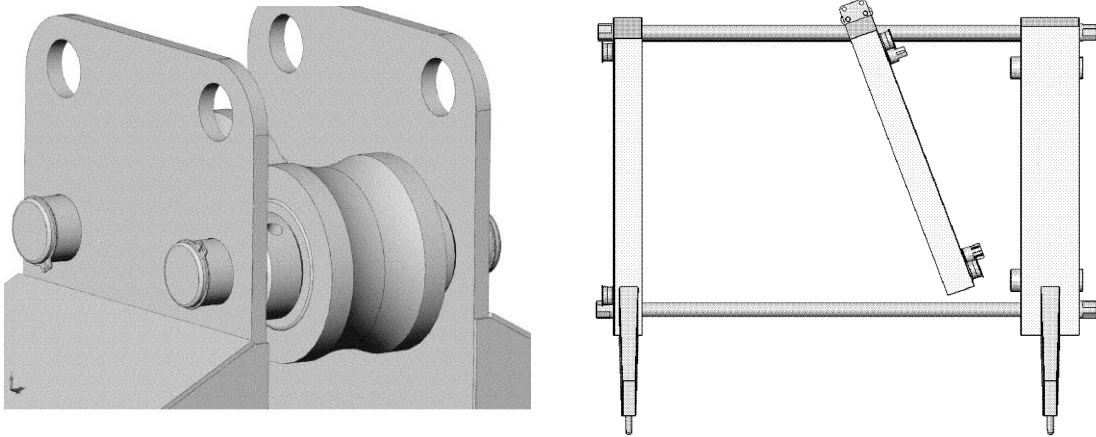

Figure 6-7
11. To install the follower it is necessary to remove the rollers. These are removed by removing the one circlip from each pin, and then the set collars (see figure 6-7).